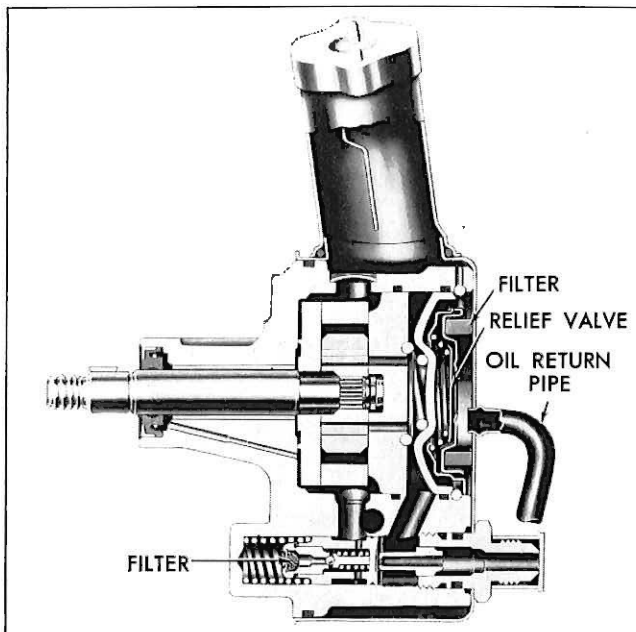

Fig 3—Power Steering Pump
The 1961 Passenger Car and Conventional Truck Power Steering Pump (Fig. 3) incorporates some significant constructional changes. The changes include (1) two new filters and pressure relief valve (2) relocation of the return oil hose (3) two mounting studs replacing the mounting bolts and (4) higher pump pressures.